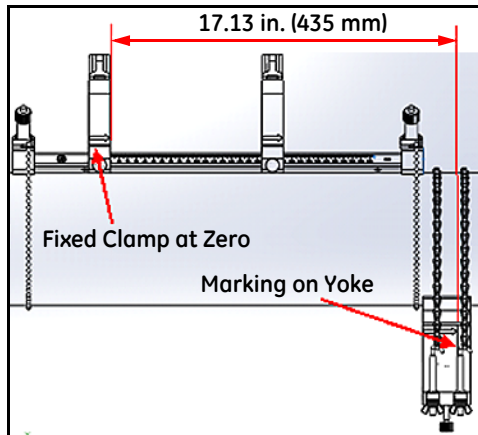

Figure 29: Yoke Set at 435 mm/17.13 in.
- **Spacing >305 mm/12 in.** (435 mm/17.13 in. is used as an example): Measure the required 435 mm/17.13 in. distance from the edge of the fixed clamp to the marked line on the yoke (see *Figure 29* below).